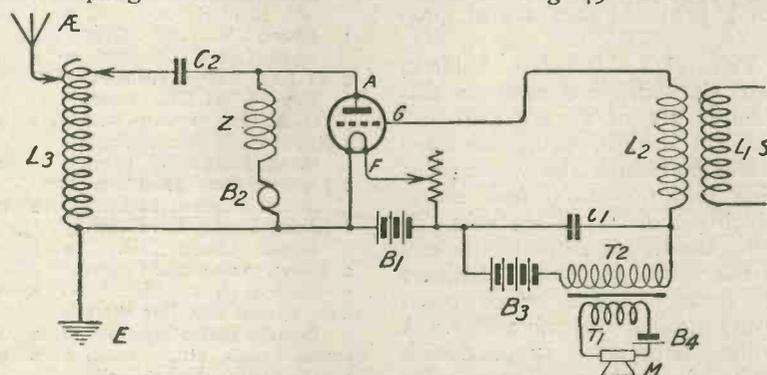

Fig. 48.—The high frequency output of the valve is varied by altering the grid potential by means of the microphone.
**A**NOTHER circuit using a separately excited amplifier valve is shown in Fig. 48. Here we apply the radio-frequency currents to the grid through a transformer  $L_1 L_2$ , the coupling between the coils
In the Fig. 48 arrangement the positive half-cycles which lessen the normal negative potential on the grid are provided by the secondary  $T_2$  of the microphone transformer; the negative half-cycles move the base-line potential further to the left, but since the high-frequency output of the amplifier valve cannot be reduced below zero, these negative half-cycles do not enter into the operation of the circuit.